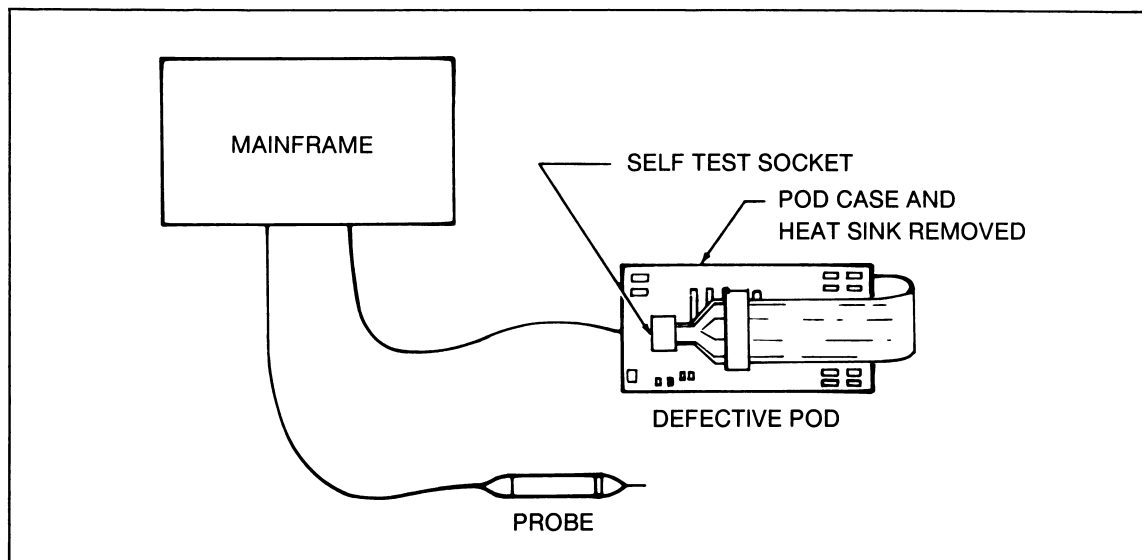

Figure 6-1. Troubleshooting a Defective Pod
3. Connect the Pod to the Mainframe, and insert the UUT cable plug into the self test socket as shown in Figure 6-1.